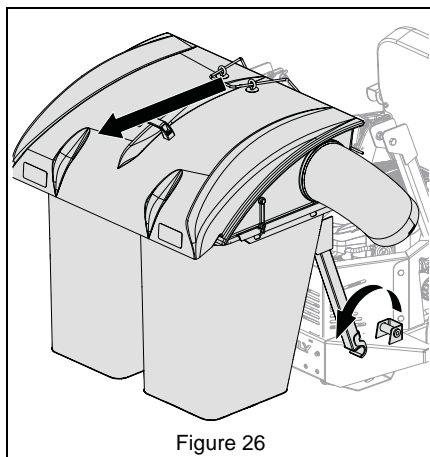

Figure 26
2. Support bagger and pull bagger rope. Lower bagger to ground and lift off bagger mounts. See Figure 26.